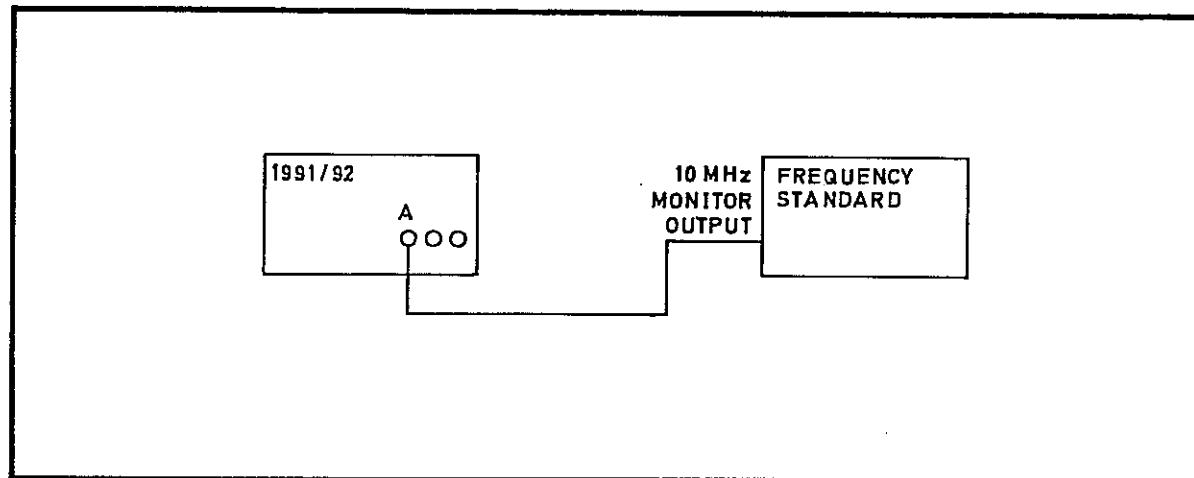

Fig 7.26 Connections for Internal Frequency Standard Adjustment
- 64 (1) Switch on the 1991/92. Select FREQ A and verify that 00000000 is displayed. If the Option 04B (9423) frequency standard is fitted, press the RESOLUTION ↑ key until 00000000 is displayed.
- (2) Connect the test equipment as shown in Fig 7.26.